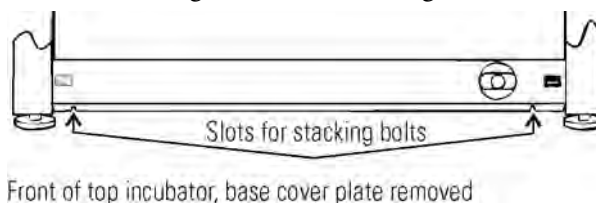

Figure 1-5. Stacking Bolt Slots
2. Note the two slots in the base of the incubator which accommodate the stacking bolts. Refer to Figure 1-5.
7. Insert the stacking brackets into the slots on the rear of the control panel of the bottom unit as shown in Figure 1-5. Align the slots in the brackets with the mounting holes on the rear of the incubators. Secure the brackets with the screws saved above and the 1/4-20 bolts provided in the stacking kit. A 7/16" (11mm) wrench or socket is required for the bolts.